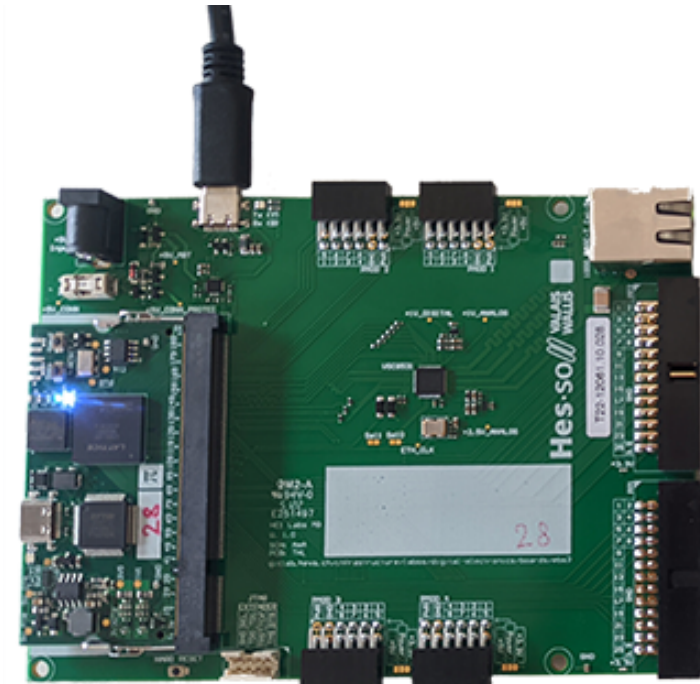

Figure 12 - EBS3 FPGA board [7]
- A FPGA development board (Figure 12).